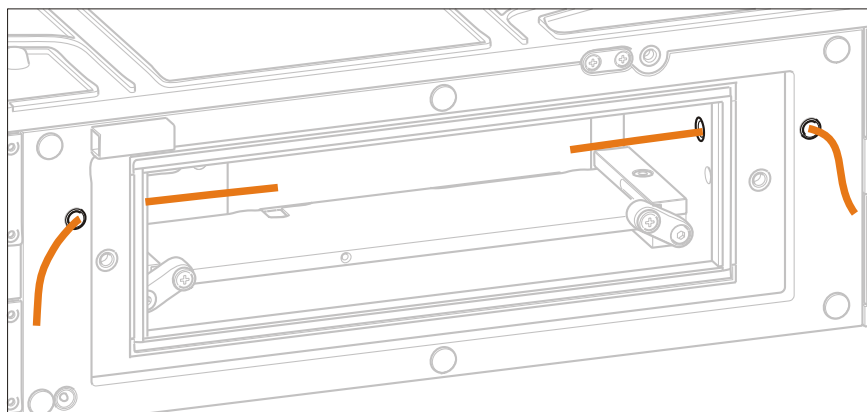

Figure 9 Capillary feed-throughs – oven
All capillaries must be fed into or out of the oven through the capillary feed-throughs at the right and left side of the oven door (see Figure 9, page 20).
- Guide the reactor inlet capillary, the reagent inlet capillary (section of 6.1831.100), and the reactor outlet capillary through the two capillary feed-throughs on the right and left side of the oven door (see Figure 9, page 20) into the oven.